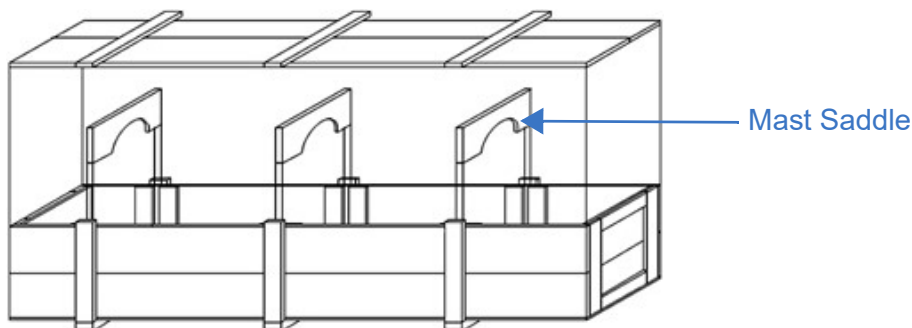

Figure 5-5 Shipping Crate
5. Remove the top half of the wooden saddles that secure the mast in place (Figure 5-5).